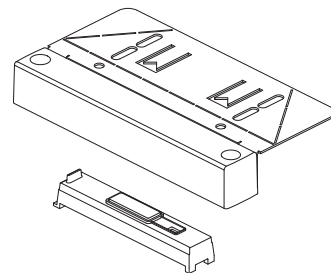

Fig. 3
4. Observing correct alignment & orientation snap new LED engine magnetically back into the chassis. (Fig. 3)